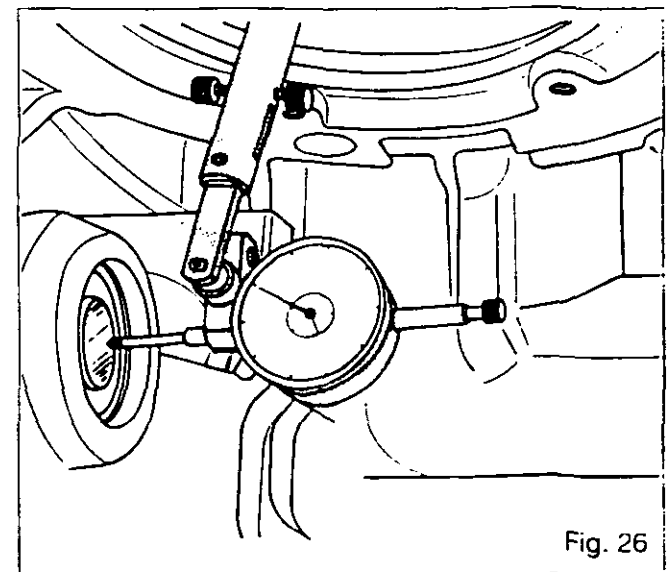

Fig. 26
82. Place the tip of a dial indicator against the drive pinion (Fig. 26).
87. Remove two screws (32), screw in two guide studs. Remove the two other screws and the supporting plate (35).
89. Fit the screws (32) smeared with Loctite 270. Remove the guide studs and tighten to a torque of 90 - 120 Nm.